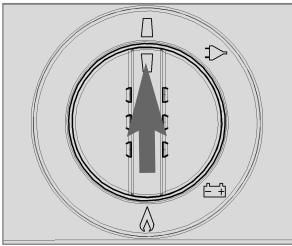

Fig. 33
- Press the "MODE" button to switch off MES and AES models. Keep button (A) pressed for 2 seconds. The display disappears and the appliance is fully switched off (Fig. 33).